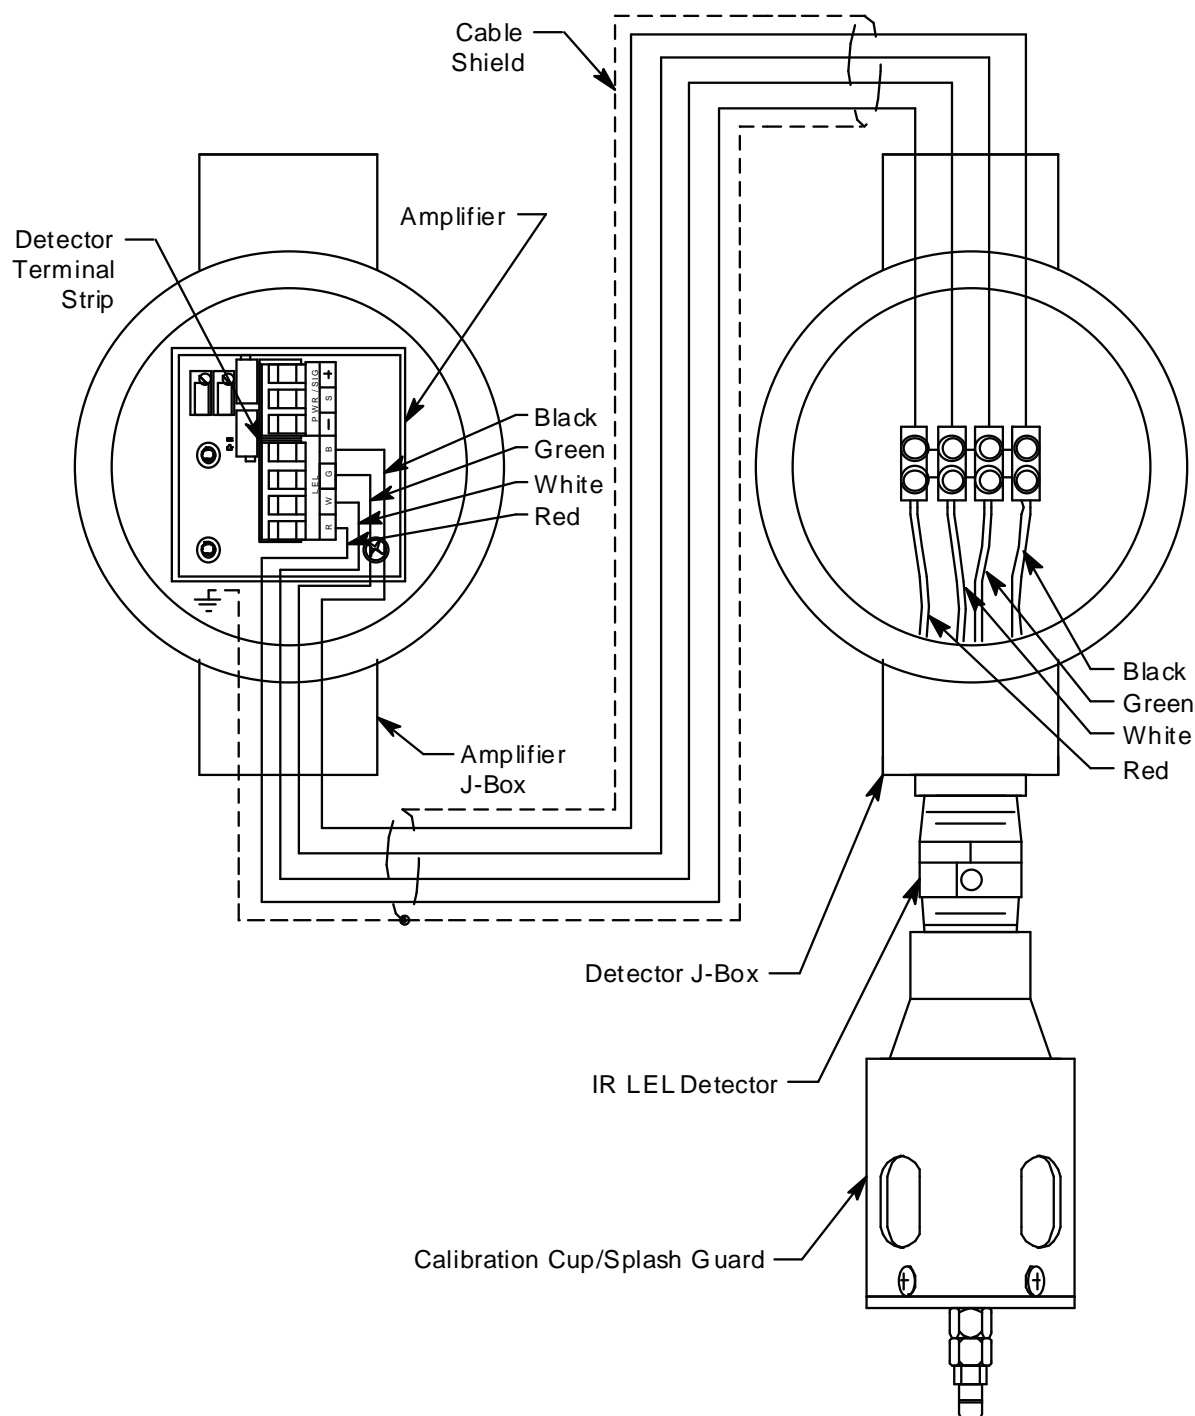

Figure 3: Wiring the Detector to the Amplifier
9. Pull out the detector terminal strip and connect the four wires to the terminal strip as follows (see Figure 3).